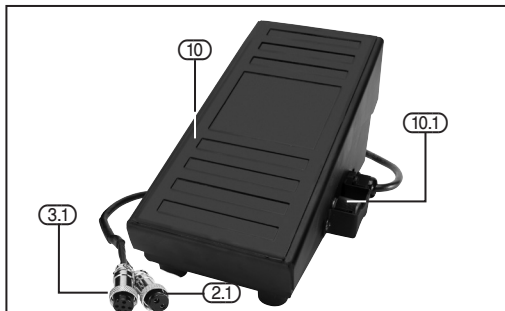

FIG. 7
7.3 TIG WELDING FOOT PEDAL CURRENT CONTROL – FIG.7